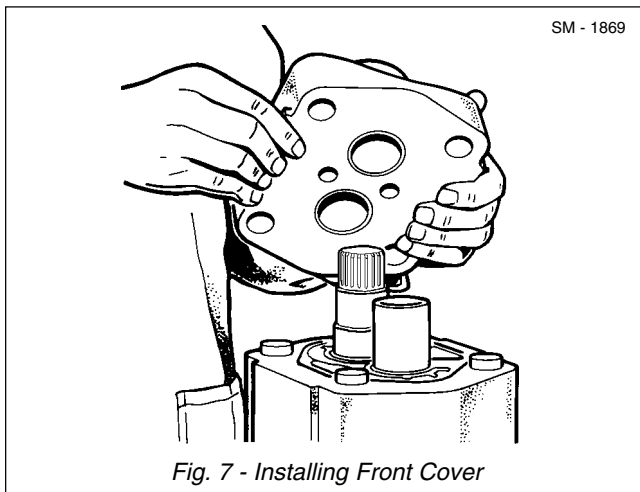

Fig. 7 - Installing Front Cover
11. Position assembled front cover (2) over gear shaft ends (11 & 12). Tap front cover (2) with a soft hammer until it rests against wear plate (14) in body housing (1), as shown in Fig. 7. Take care not to damage ring seal (10) and seal (20).